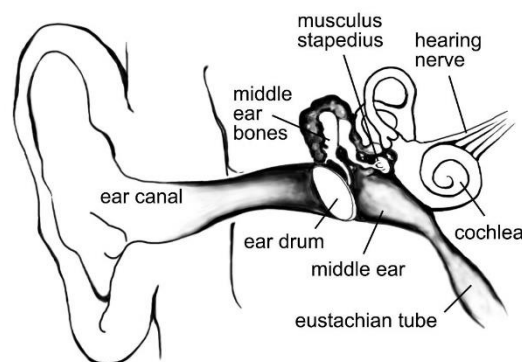

Figure 1
Tympanometry is the objective measurement of middle ear mobility (compliance¹) and pressure² within the middle ear system (Figure 1). During the test, a low-pitched probe tone (226 Hz) is presented to the ear canal by means of the probe. This tone is used to measure the change in compliance in the middle ear system while the air pressure varies automatically from a positive value (i.e., +200 daPa) to a negative value (i.e., -400 daPa max). The compliance is obtained as aural acoustic admittance (Y), which consists of the parts susceptance (B) and conductance (G).